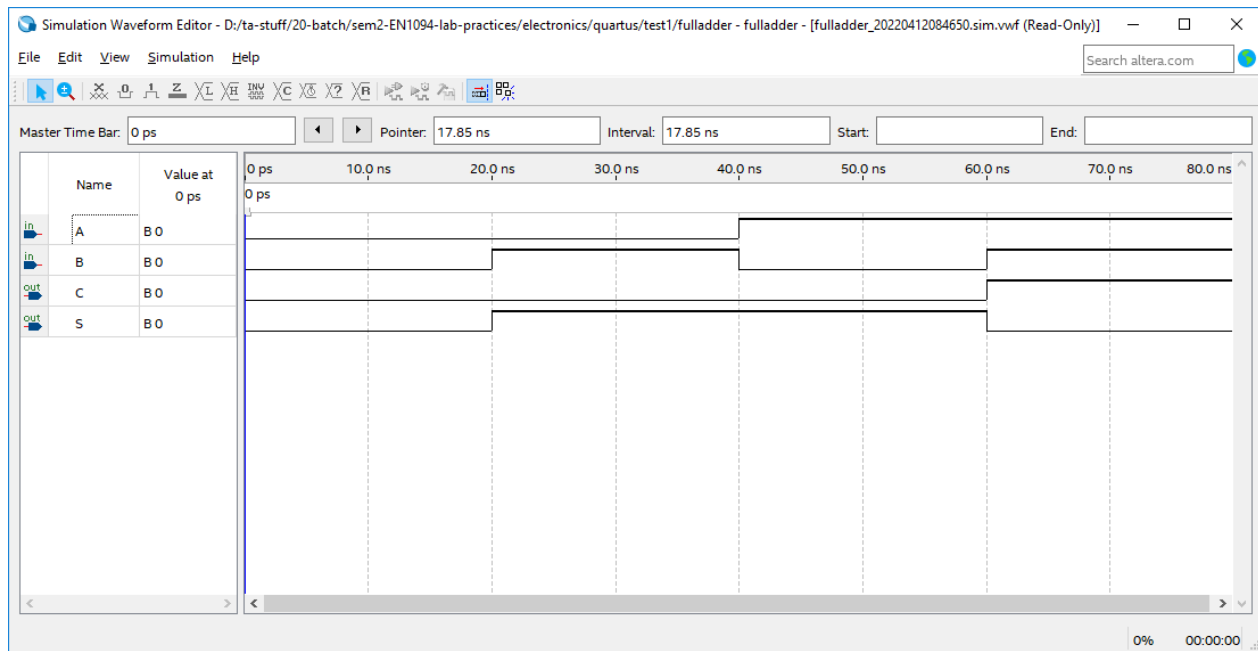

Figure 5.11: Simulation result
6. To run the simulation, click **Simulation > Run Functional Simulation** from the menu bar. It will open up a new window displaying the status of different sub-tasks required for the simulation. In the end, if there are no errors, the output waveforms will be displayed on the **Simulation Waveform Editor**. An example is given in Figure 5.11.